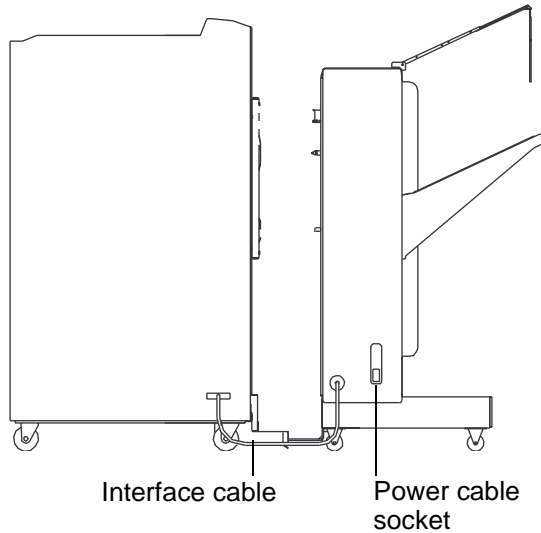

Figure 22 Connecting the interface cable and power cable
Step 1 Plug the interface cable from the HCO into the connector on the back of the printer. See Figure 22.
Step 2 Plug the socket end of the power cable into the power cable receptacle on the HCO. See Figure 22.